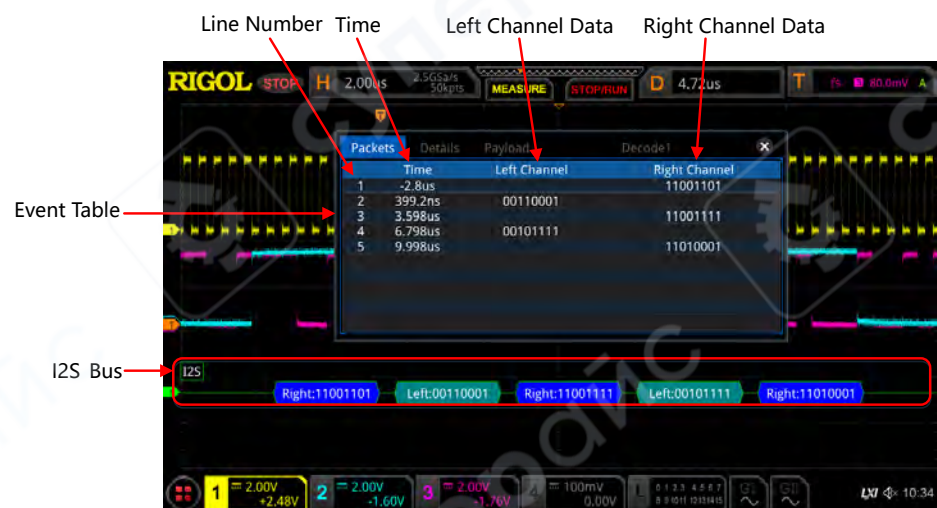

Figure 15.14 I2S Decoding Event Table
- Open or close the event table: Press **Event Table** continuously to enable or disable the display of the event table. When enabled, the following event table as shown in *Figure 15.14* is displayed. You can also enable the touch screen to tap the icon  at the right-upper corner of the event table to close it.